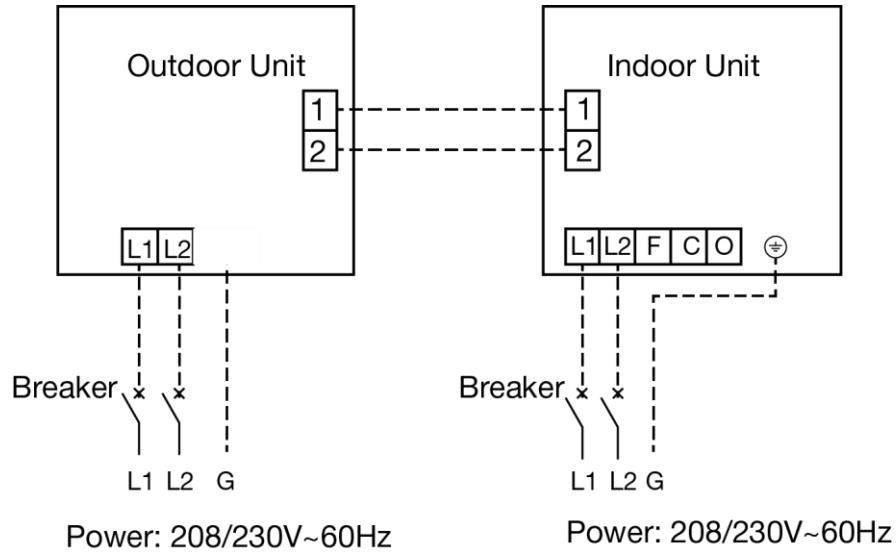

Fig. 40
- Connect the indoor unit communication cable properly based on the corresponding marks as shown in Fig. 40.